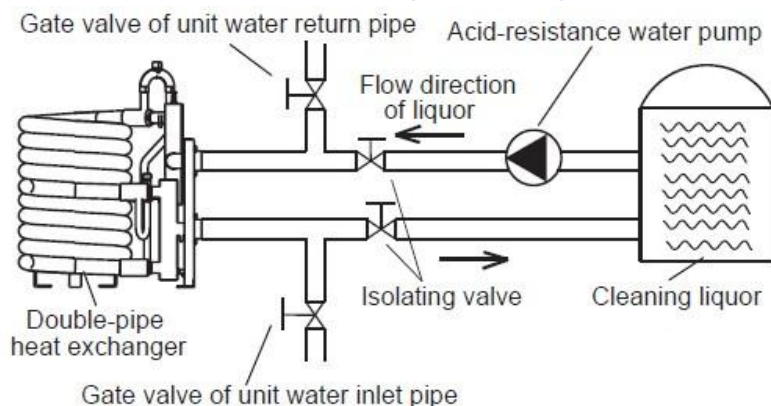

Fig.3-7 Cleaning system schematic diagram of double-pipe heat exchanger
- 2) Correctly connect the cleaning system as the above figure 3-7, make the cleaning liquor counter flush the double-pipe heat exchanger (opposite the general flow direction).